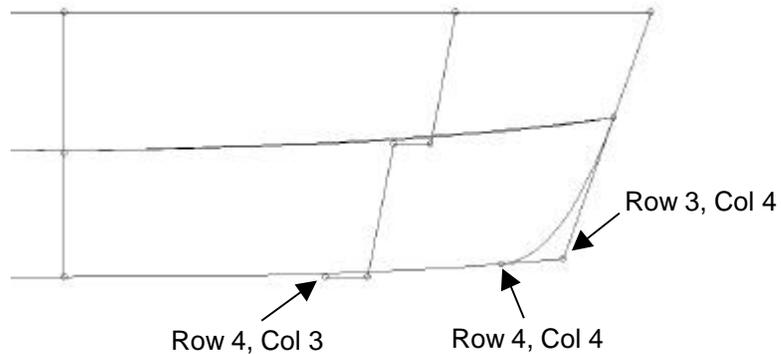

Figure 3-4: Control points at stem
Col 3 in our model) and write down the L and V coordinates. (See figure 3-4.)
2. Click on the vertex at the bottom of the stem column (Row 4, Col 4 in our model) and write down the L coordinate. (See figure 3-4.)
3. Click on the next vertex above the bottom of the stem (Row 3, Col 4 in our model) and write down the L and V coordinates. (See figure 3-4.)